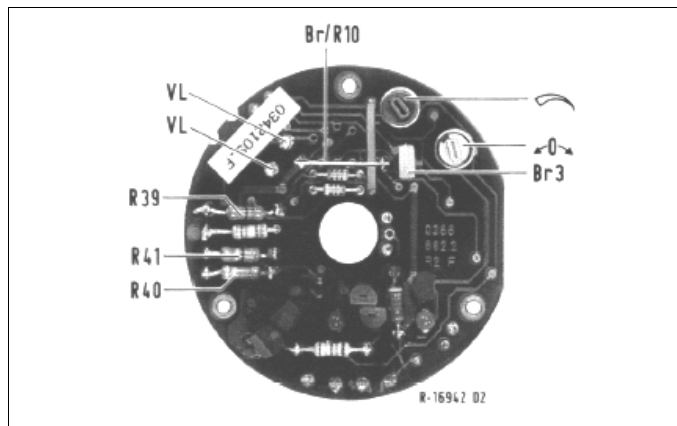

Fig. 2-2 Printed circuit board with LP2 electronics
- The connection lines between the differential capacitor and the soldering terminals on the LP2 have to be resoldered (see Fig. 2-2 page 14).